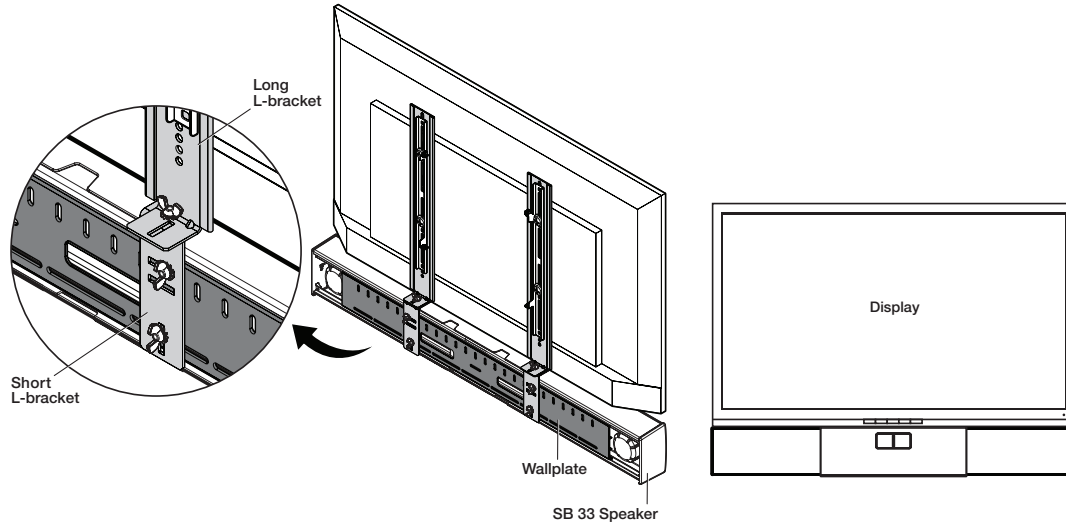

Figure 6. Installing the SB 33 speaker wall plate
9. Install the SB 33 speaker to the wall plate as shown in figure 6.